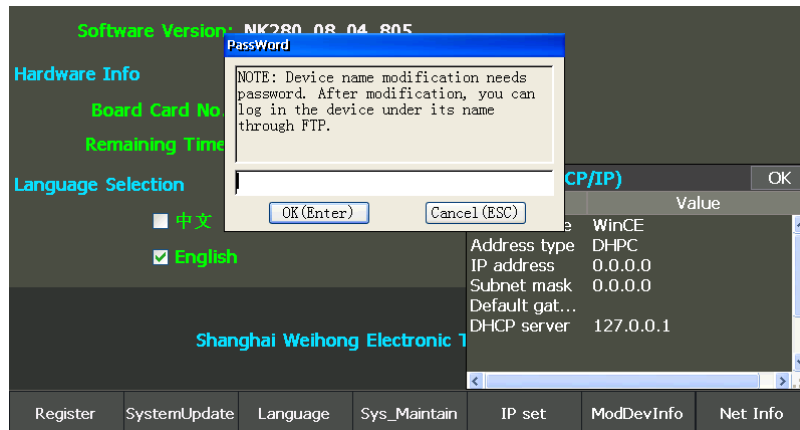

Fig. 3-65 Device info modification- password input
- 3) Click “ModDevice” to access the password input interface, as shown in Fig. 3-65.